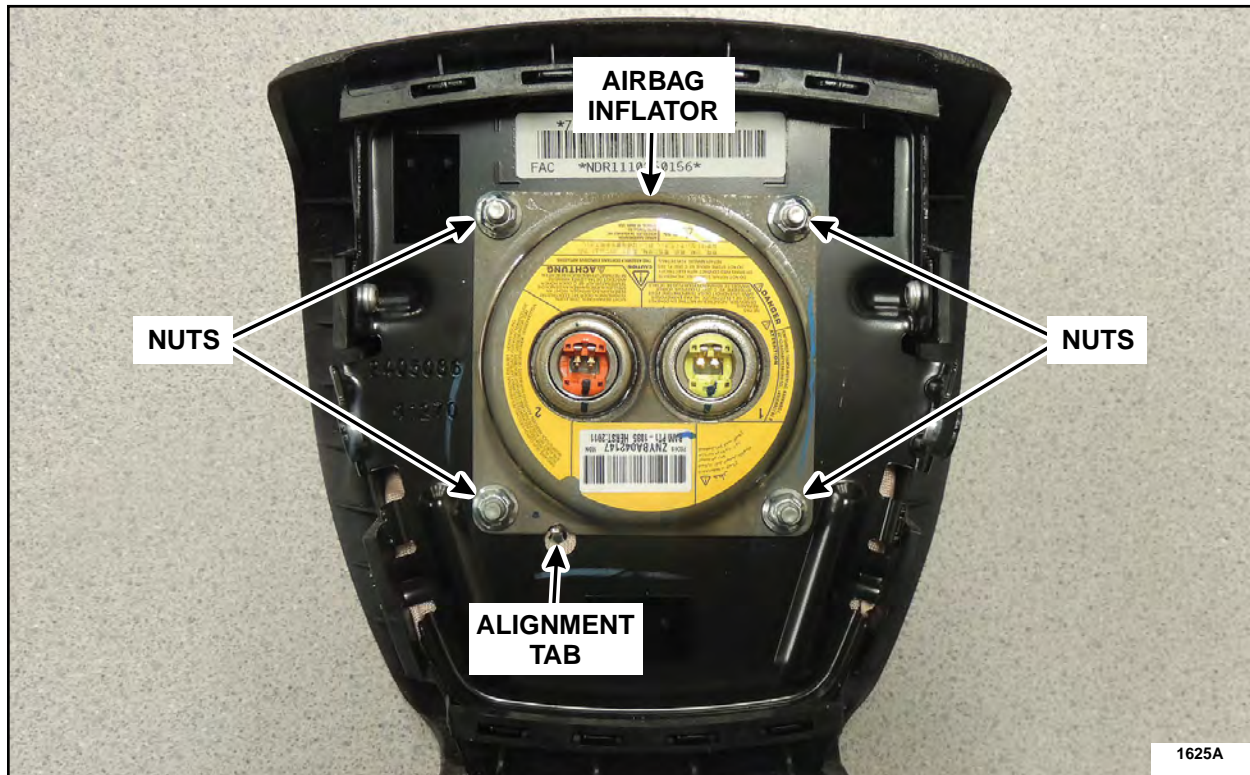

FIGURE 1
3. Remove and discard the four airbag inflator retaining nuts from the driver side airbag. See Figure 1.
Remove the airbag inflator and set aside for return shipping. See Figure 1.
Install the *new* inflator into the driver airbag. Verify the alignment tab on the airbag housing is aligned with the cut-out on the inflator. See Figure 1.
6. Install four *new* airbag inflator nuts onto the driver airbag. See Figure 1.